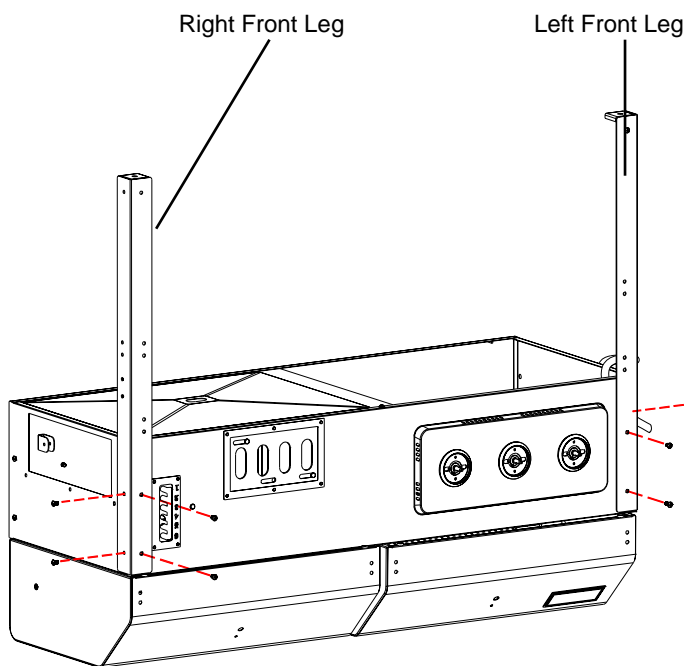

Fig. 1
*Locate:* Cabinet and Lid Assembly, Left Front Leg - green label # 4, Right Front Leg - blue label #2 and (7) M6x15 bolts.
Position cabinet upside down and attach left front leg using (3) M6x15 bolts and right front leg using (4) M6x15 bolts as shown in Figure 1.